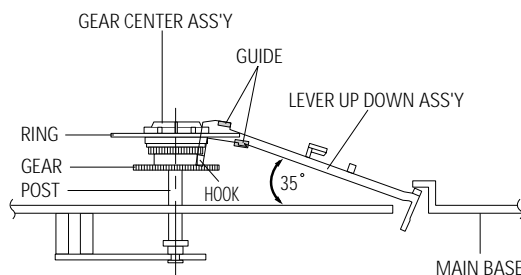

Fig. 5-30 Lever Up Down Ass'y Removal
- 1) Insert the Lever Up Down Ass'y ❶ in the rectangular holes on Main Base as shown in Fig 5-30.
- 2) Lift the Lever Up Down Ass'y ❶ about 35°. (Refer to Fig 5-30)
- 3) Insert Ring of the Gear Center Ass'y ❷ in the Guide of the Lever Up Down Ass'y ❶.
- 4) Insert the Gear Center Ass'y ❷ in the post on Main Base.
- 5) Push down the Lever Up Down Ass'y ❶ for locking of the Hook.